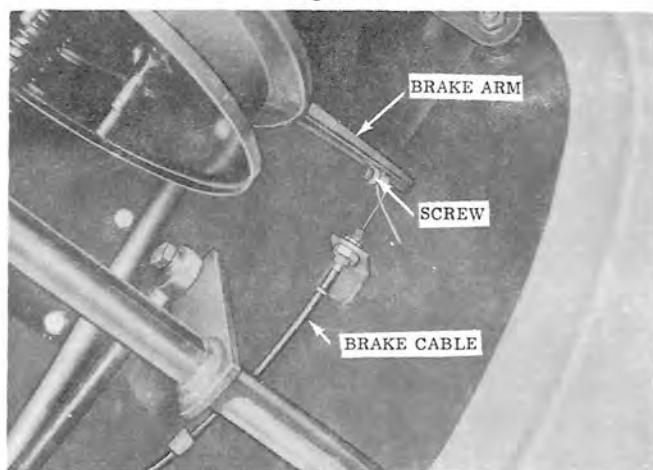

Figure 3
6. Remove brake cable from brake arm by removing the screw (See Figure 3).